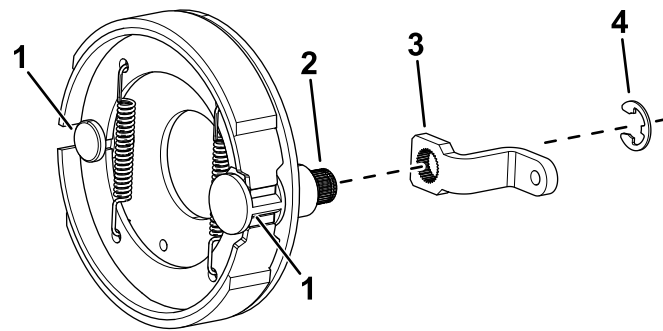

Figure 2
1. Remove the E-ring and the lever from the brake assembly (Figure 2).
2. Apply anti-seize lubricant to the cam-shaft splines (Figure 2).
3. Install the lever and E-ring to the cam-shaft splines (Figure 2).
4. Lightly lubricate the brake-shoe pivot points (Figure 2) with general-purpose grease.